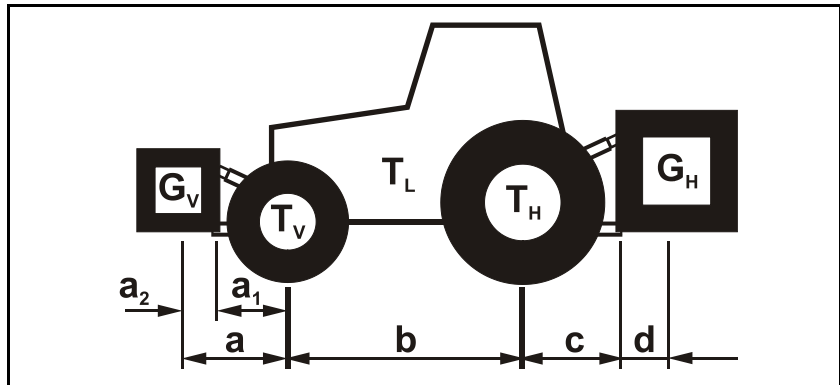

Fig. 48
2. Close the actuating lever (Fig. 48/3) for Limiter M.